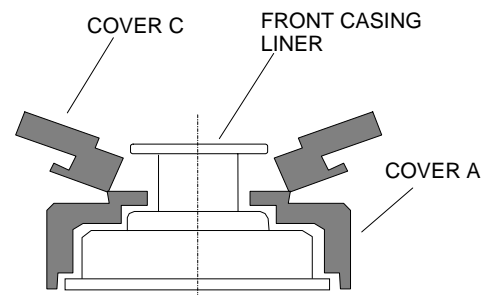

Figure 16
3. Remove the two hex socket bolts (90.4) and separate Cover C (1.2) [Fig. 16].
7. Attach and temporarily secure the two halves of Cover C (1.2) to Cover A (1 + 1.1) with the hex socket bolts (17). Tap the two parts gently in a slanted direction from the front casing liner suction port. [Fig. 16]